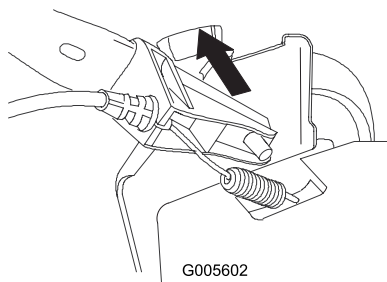

Figure 4
2. Install the left lower handle end and cable anchor onto the pin on the left handle bracket (Figure 4).
Note: Use the upper hole in the handle (Figure 4).